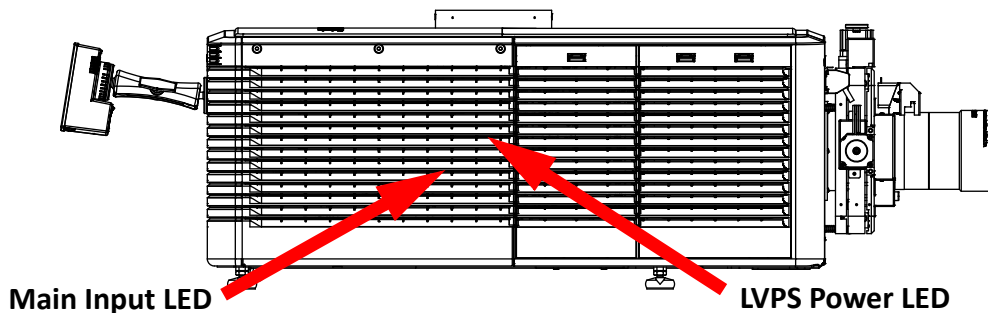

Figure 4-2 View Power Status LEDs
3. Verify power by looking through the rear, right side grill. One LED should be present in the upper right. This indicates the LVPS has power. Another LED should be seen in the lower left indicating Main input (**Figure 4-2**).